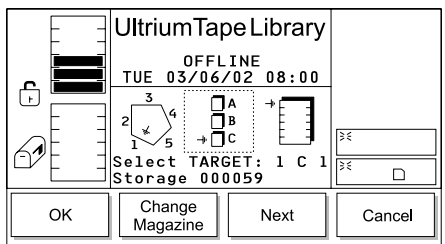

Figure 98. Change Magazine Dialog
- a. Press the button below the **Change Column** softkey until the arrow in the left icon points to the column that you want. Press the button below the **Next** softkey. The Change Magazine Dialog displays (see Figure 98).